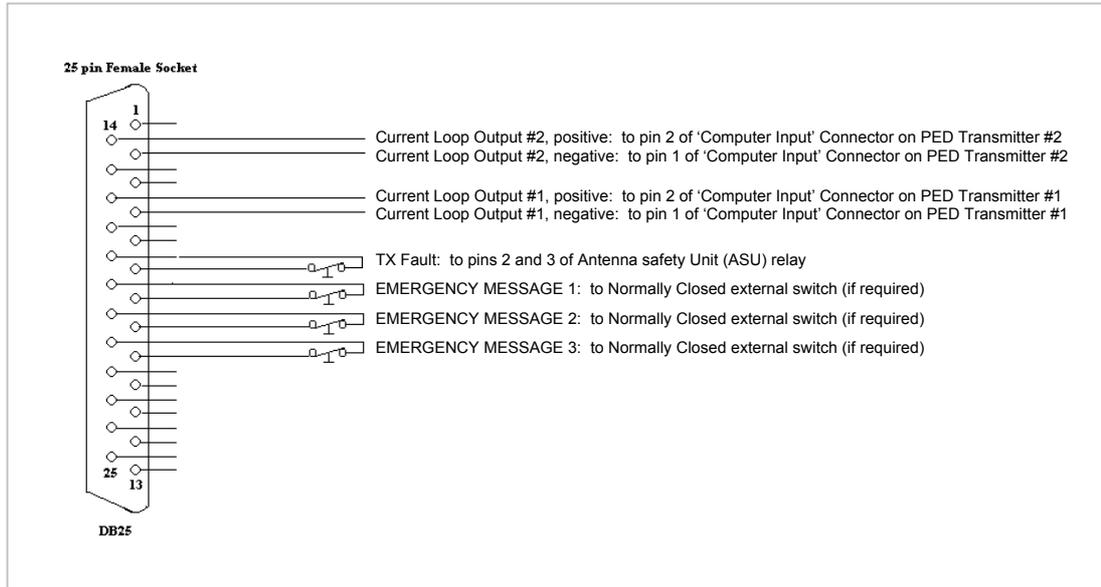

Figure 8: External Modulator Pin Connections
4. Connect the 25 pin "D" Type connector to the external modulator. (Figure 8)